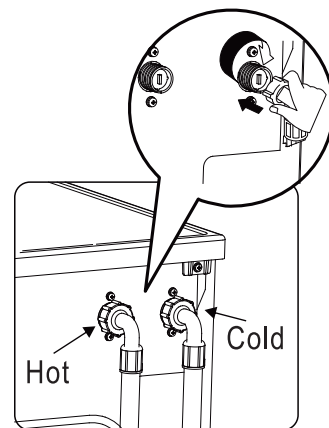

Fig.7
3. Secure both brackets to the floor using a drill and 3 screws each (Fig.7).